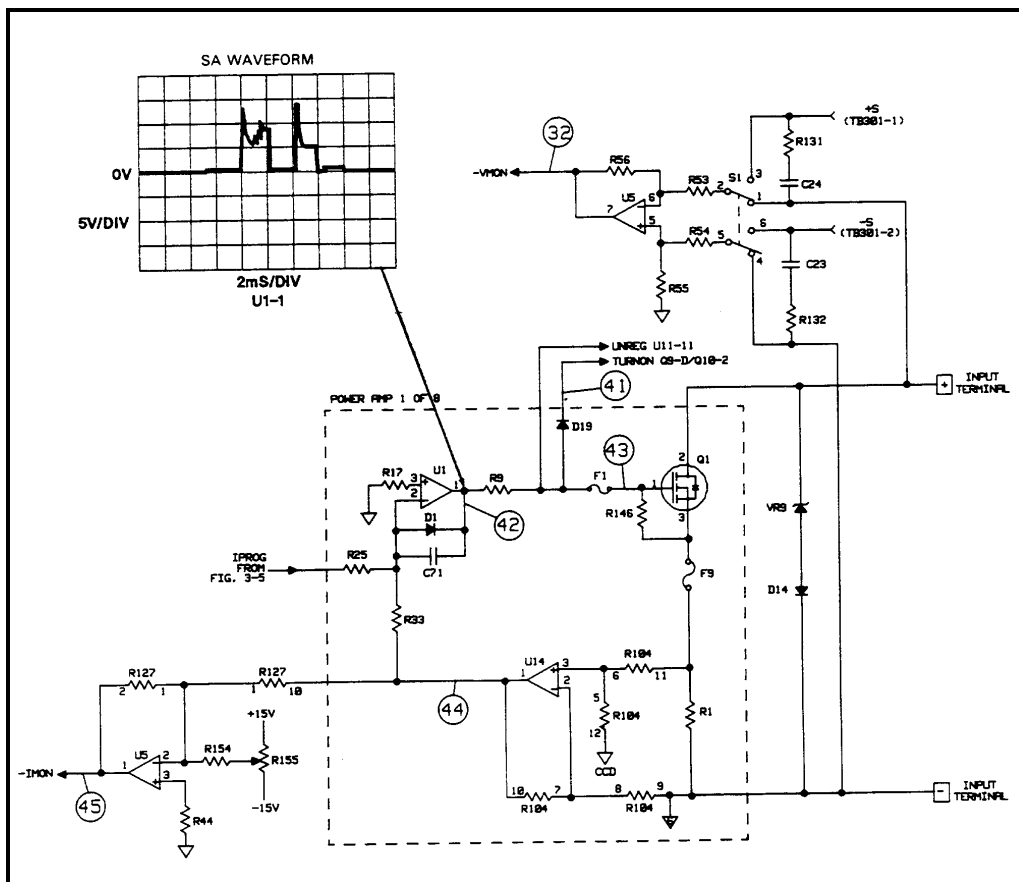

Figure 3-6. Input Power Stages Troubleshooting
Input Power Stages Troubleshooting (Figure 3-6)
There are eight identical input power stages connected in parallel. Figure 3-6 shows one of the eight. This stage consists primarily of a power FET (in quad array Q1), a monitor amplifier (U14) and an error amplifier (U1). Schematic details are shown on Figure 6-1, sheet 6.
To troubleshoot the input power circuits, place the Electronic Load in the S.A. mode by connecting the jumpers in test headers TP201 and TP301 in the S.A. mode positions (see Figure 3-2). The waveform shown in Figure 3-6 at the output of the error amplifier can only be generated in the S.A. mode. Check that this waveform appears at the output of the error amplifier in each input power stage. Refer to Figure 6-1, sheet 6 to locate the output pin of each error amplifier. Checking each stage may isolate the problem to a specific stage.
If the problem is isolated to a specific stage, turn the S.A. mode off (remove jumpers) and check the test points (41) through (44) that correspond with applicable circuit points in the defective stage. Use the measurement conditions specified in Table 3-3. Also, check the applicable fuses in the specific stage. As shown in Figure 3-6, fuses F1 and F9 are used by stage 1.